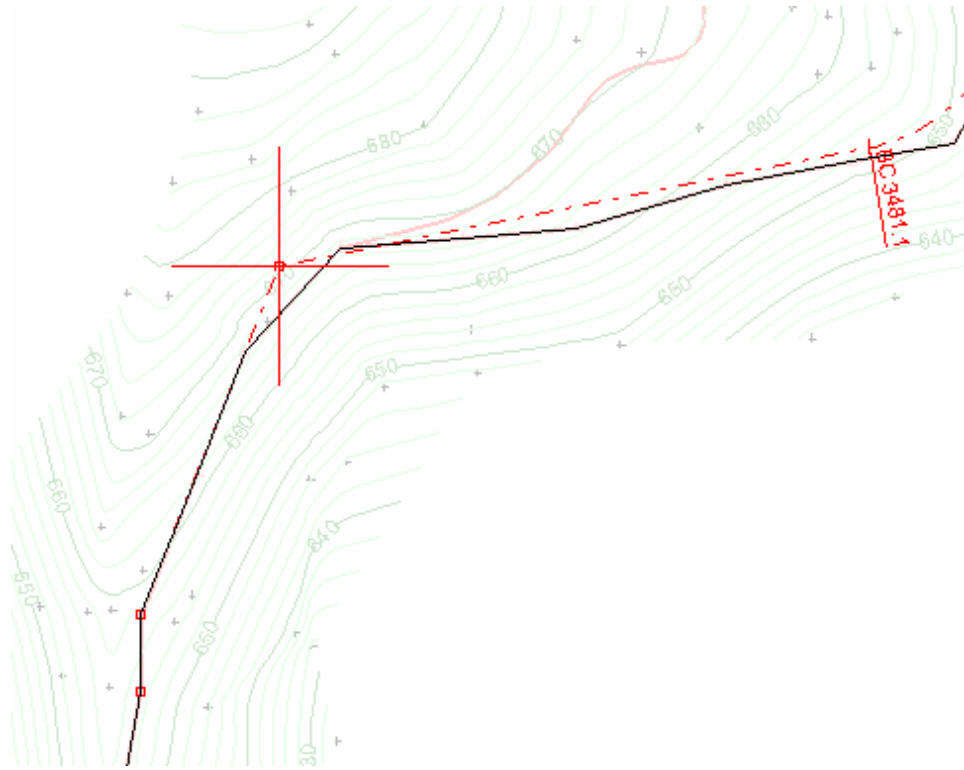

Figure 4.14: Ready for Second Curve
9. Capture the remaining point and move it so that the tangents resemble Figure 4.14.